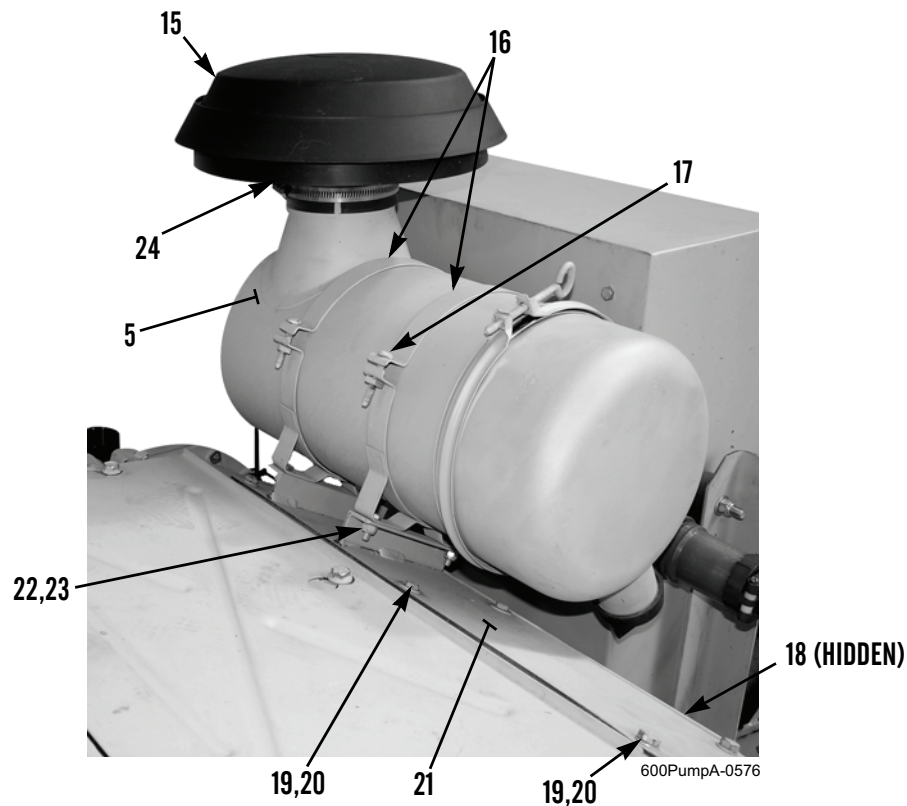

Figure 6. Air Cleaner Housing Assembly.
5. Remove clamp (Figure 6, Item 24) and hood assembly (Figure 6, Item 15) from air cleaner housing (Figure 6, Item 5).
6. Remove two bolts (Figure 6, Item 17) from support clamps (Figure 6, Item 16) and remove air cleaner housing (Figure 6, Item 5).
7. Remove four locknuts (Figure 6, Item 22), bolts (Figure 6, Item 23), and two support clamps (Figure 6, Item 16) from cover plate (Figure 6, Item 21). Discard locknuts.
8. Remove six bolts (Figure 6, Item 19), washers (Figure 6, Item 20), cover plate (Figure 6, Item 21), and metal strip (Figure 6, Item 18) from top of oil cooler.
1. Install metal strip (Figure 6, Item 18) and cover plate (Figure 6, Item 21) to top of oil cooler with six washers (Figure 6, Item 20) and bolts (Figure 6, Item 19).
2. Install two support clamps (Figure 6, Item 16) to cover plate (Figure 6, Item 21) with four bolts (Figure 6, Item 23) and new locknuts (Figure 6, Item 22).
3. Install air cleaner housing (Figure 6, Item 5) in two support clamps (Figure 6, Item 16) and install two bolts (Figure 6, Item 17).
4. Install hood assembly (Figure 6, Item 15) and clamp (Figure 6, Item 24) on air cleaner housing (Figure 6, Item 5).